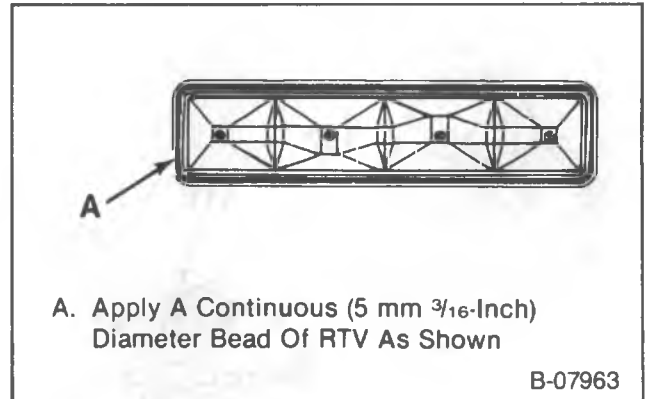

Figure 56—Applying RTV to the Pushrod Cover
- Studs (60) to 10.0 N·m (90 in. lbs.).
- 4. Pushrod cover (50).
- Apply a 5mm ($\frac{3}{16}$ -inch) bead of RTV sealant to the pushrod cover as shown in figure 56.
- 6. Pushrods (47). Seat the pushrods into the sockets of the hydraulic lifters.
- Coat the mating surfaces of the rocker arms (33) and balls (32) with a molybdenum disulfide grease.
- 7. Rocker arms (33).
- 8. Balls (32).
- 9. Bolts (31).